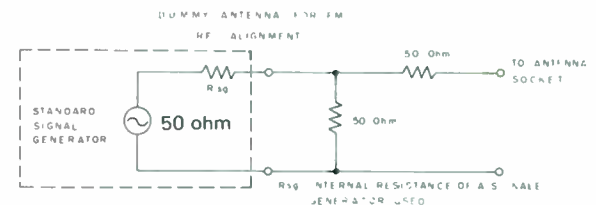

Figure 15.
1. Connect FM signal generator to antenna receptacle thru the dummy antenna. (Figure 15).